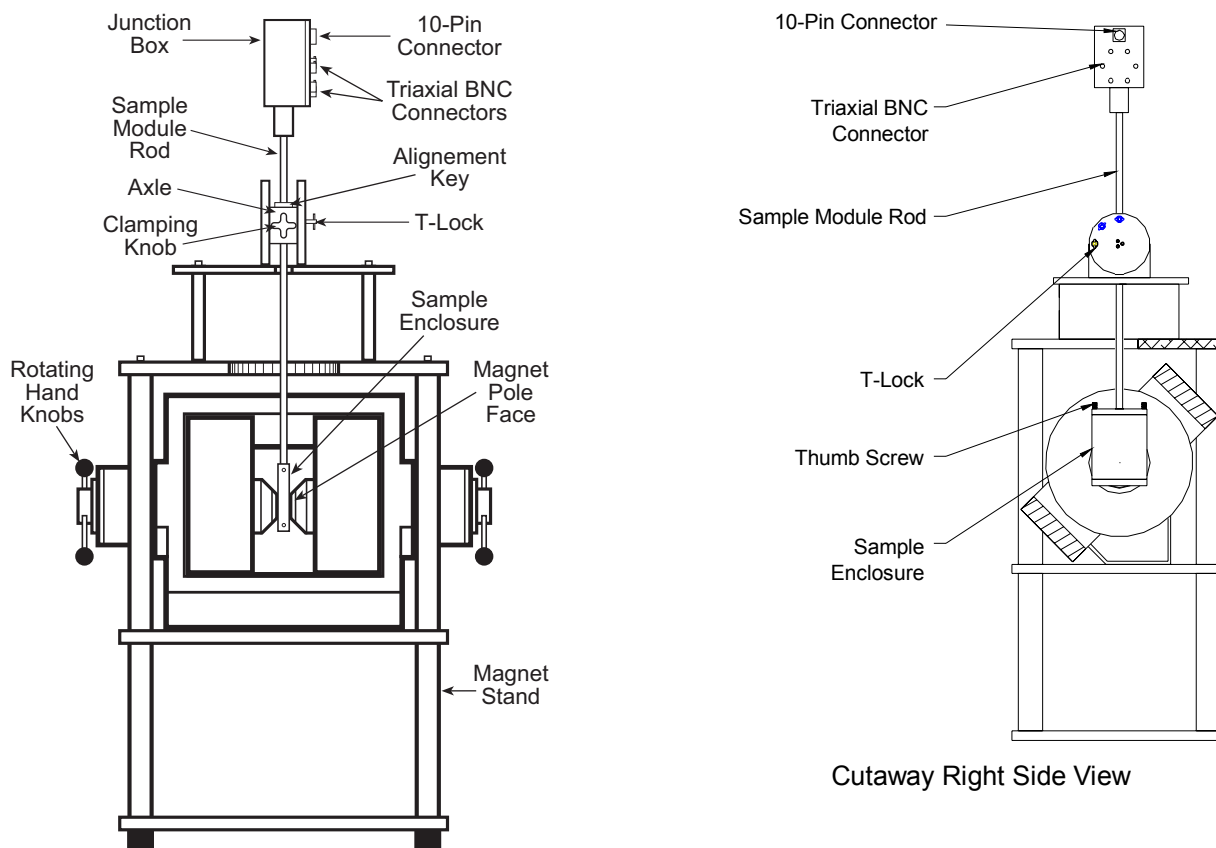

Figure 4-3. Model 75013 SCSM in an EM4 Electromagnet Platform
9. Mount the 75013 SCSM to its base plate. Orient the sample module with the pillow blocks on top of the base plate (flat side) and the sample enclosure end pointing in the same direction as the U-shaped cutout in the base plate. Insert four screws (1/4"-20 × 3/4" SHCS) up through the bottom of the base plate (side with recesses for the screw caps) into the two pillow blocks and tighten. When rotated into the vertical position (as shown in Figure 4-3), the clamping knob must extend over the U-shaped cutout in the base plate and the junction box and sample will both face to the right.
The Model 75013 SCSM mounts on top of an electromagnet. See Figure 4-3 for a typical installation on an EM4 electromagnet platform. Following is the installation procedure: